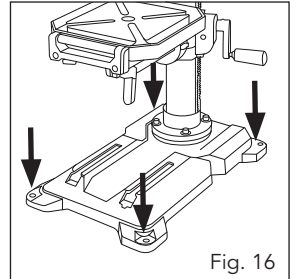

Fig. 16
18. Before you use the digital drill press for the first time it must be mounted in a stationary position on a firm surface. Use four mounting holes (21) in the base (30) to do this. Ensure that the machine is freely accessible for operation, adjustment and maintenance (Fig. 16).